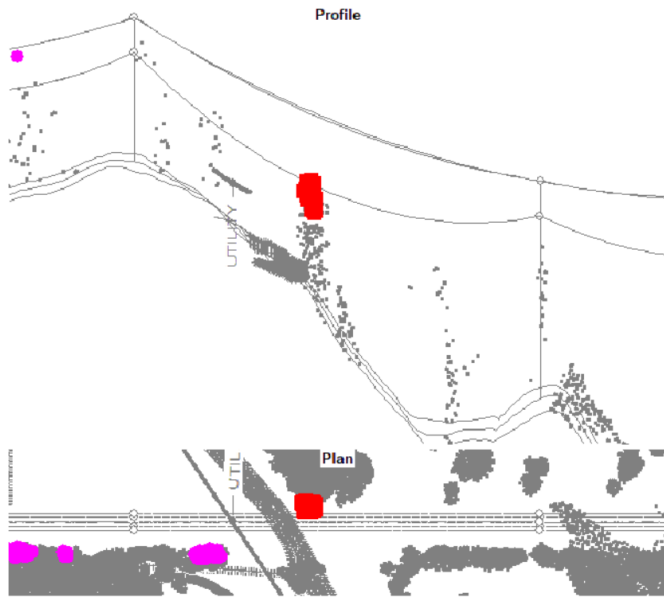

Figure 10: Plan and Profile views of violations from Report
- *Option to include plan and profile graphics in the report for spans with violations:* This adds the plan and profile graphics for each selected span to the end of the report. All parts of the model are grayed out except for the violation markers. See Figure 10.
To obtain the view in Figure 10: